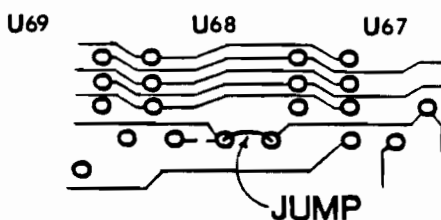

Figure 32
4. Solder a jumper from the center feed through hole to the right feed through hole as shown in figure 32.